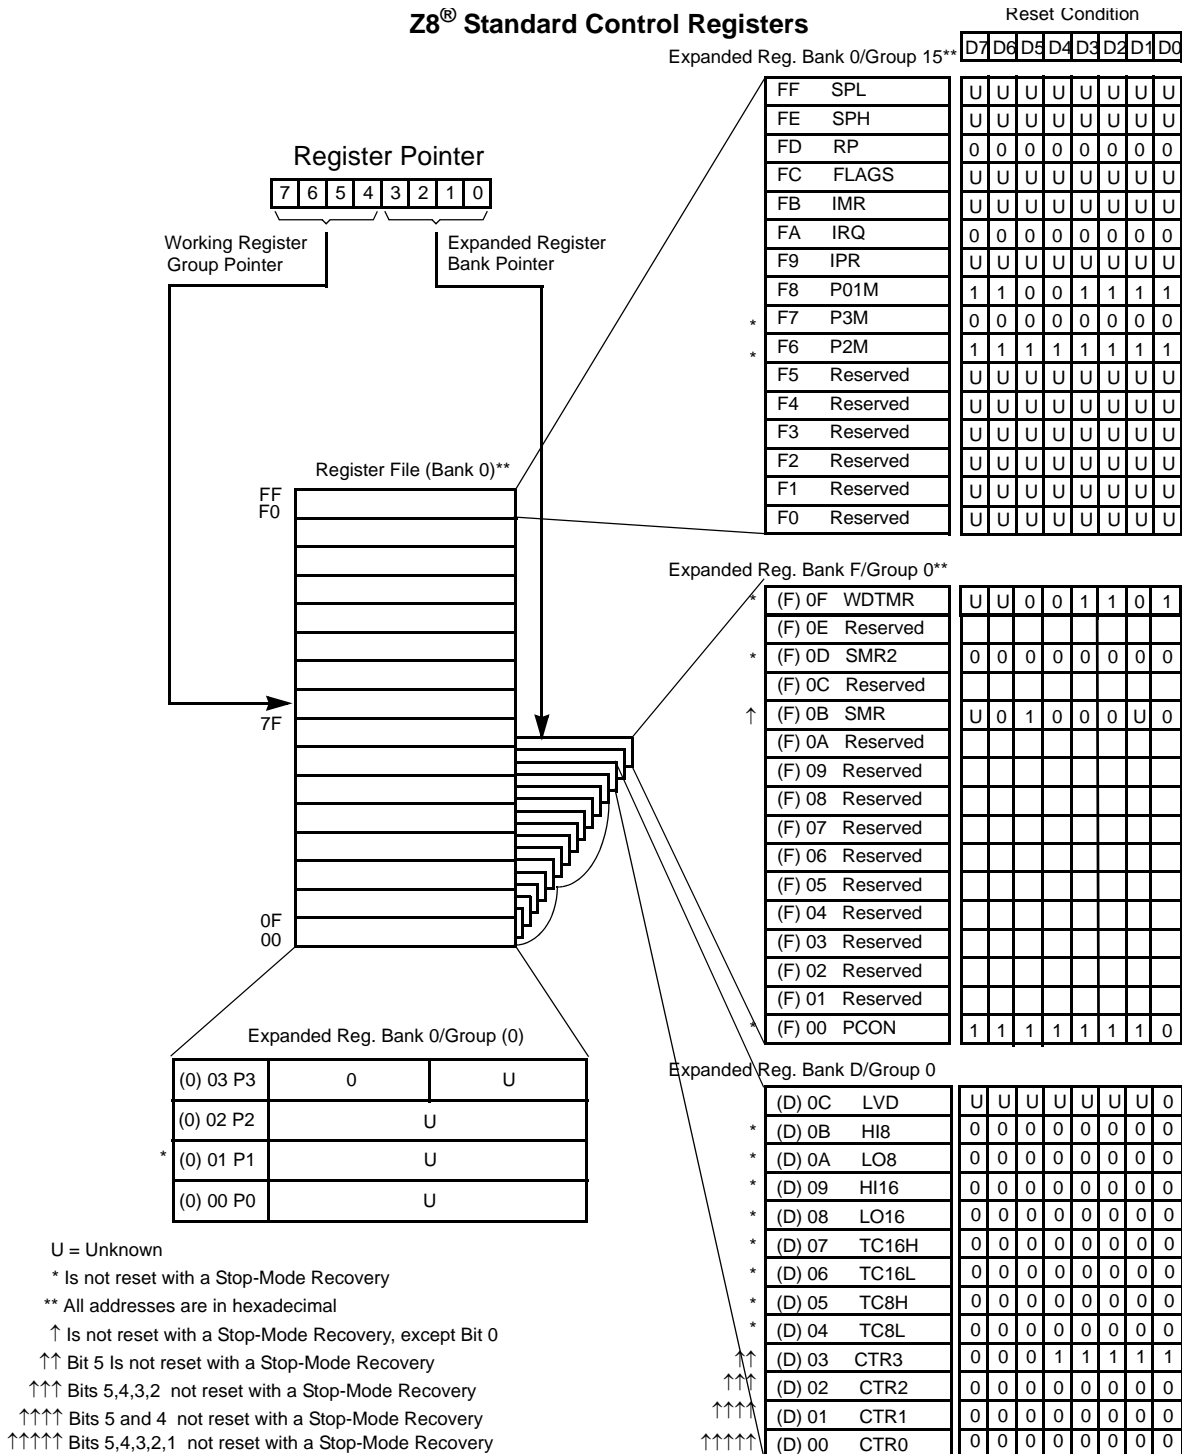

Figure 15. Expanded Register File Architecture
- ▶ **Note:** An expanded register bank is also referred to as an expanded register group (see Figure 15).
Example: Z8 GP: (See Figure 15 on page 28)